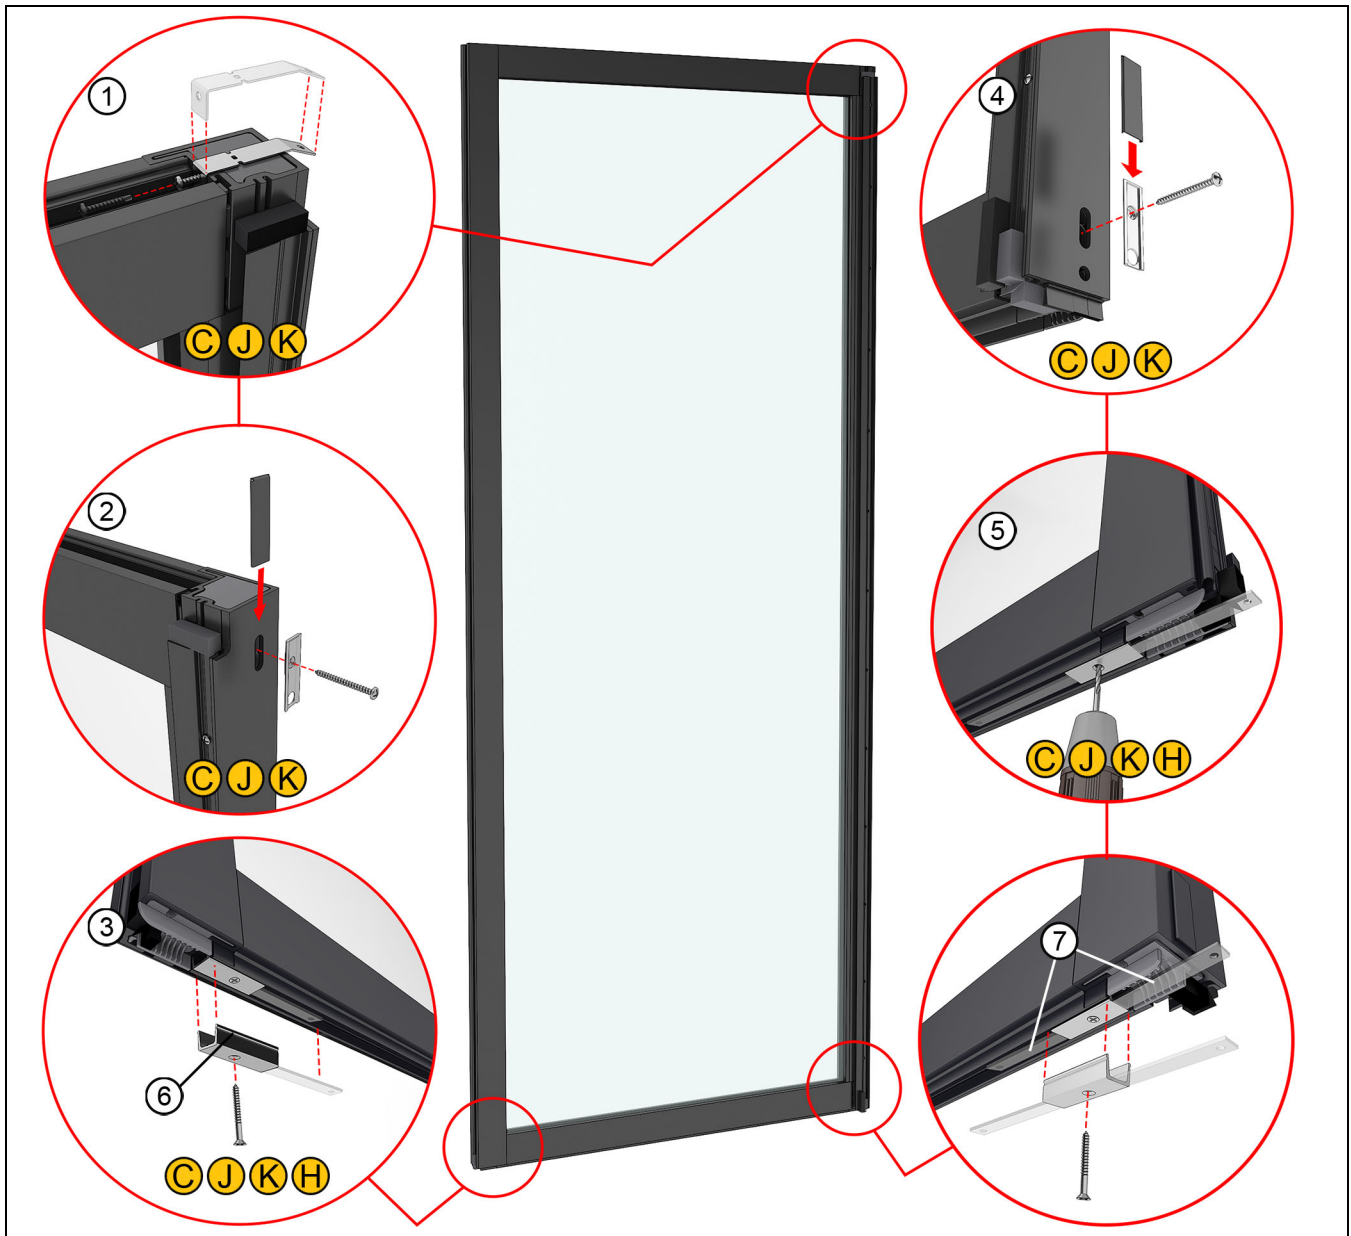

Figure 75
NOTE: Refer to Figure 75 on page 27 for all steps in this section.
1. On stationary panels (C,J, K) place the upper stationary bracket over the interlock stile(s) and attach with a #8 x 1" (25) screw through the corner key. See Figure 75 (1).
2. On stationary (C, J, K) and secondary panels, fasten the cover retainer to the top and bottom of the stiles with a #8 x 1 3/4" (44) Phillips head screw. Slide the cover over the retainer. See Figure 75 (2) and (4).
3. On stationary panels (C,J, K, H) place the lower stationary leveling block in the bottom rail channel. Align the wide part of the leveling block with the seam between corner key and the rail, then pre-drill with a 1/8" (3) drill bit. Fasten with a #8 x 1 1/2" (38) Phillips head screw. See Figure 75 (3) and (5).